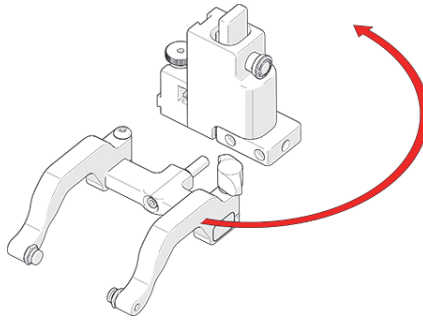

Figure 3-28 Orient to opposite side
2. Position the yoke and arms to the opposite side of the probe holder (see Figure 3-28 on page 56).